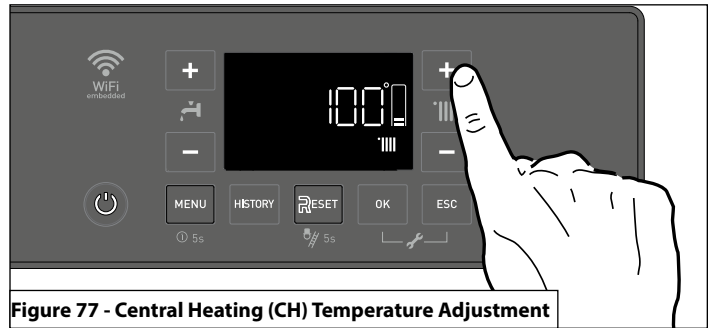

Figure 77 - Central Heating (CH) Temperature Adjustment
It is possible to adjust the central heating (CH) temperature setpoint from the home screen by pressing the CH +/- buttons. See Figure 77. The allowable operating range is limited by the Max and Min Temperature Settings (e.g., Parameters 4.2.5 and 4.2.6) which are adjustable via the Technical Menu. See P. Technical Menu - Access and Navigation.